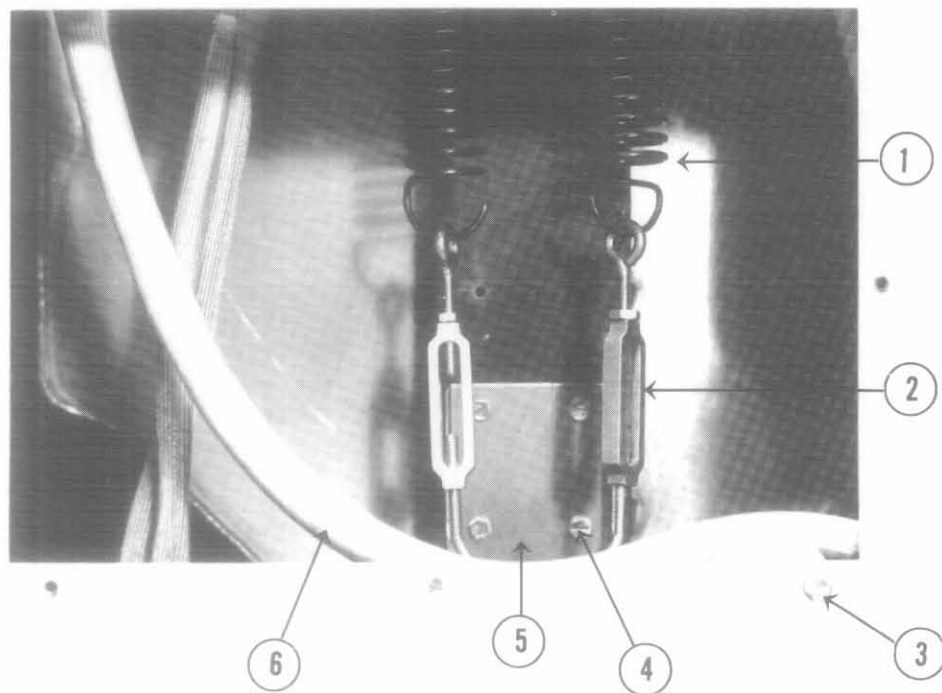

Figure 13
16. PARTS LIST (CONT'D)-Heating Element Tilt Mechanism and Associated Components (Refer to Figures 13 & 14)